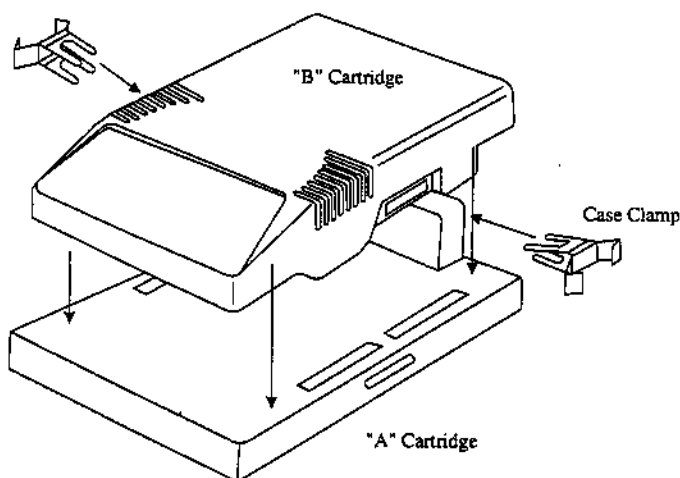

Figure 12 : Case Clamp Installation
2. To mate the existing "B" cartridge with the "A" cartridge, align the "B" cartridge over the "A" cartridge and push down firmly. Install the case clamps as shown in Figure 12.
2. To remove the existing "A" cartridge from the "B" cartridge, pull the old case clamps apart and discard (see Figure 12). Carefully remove the old "B" cartridge and install the new "B" cartridge. Install the new case clamps.